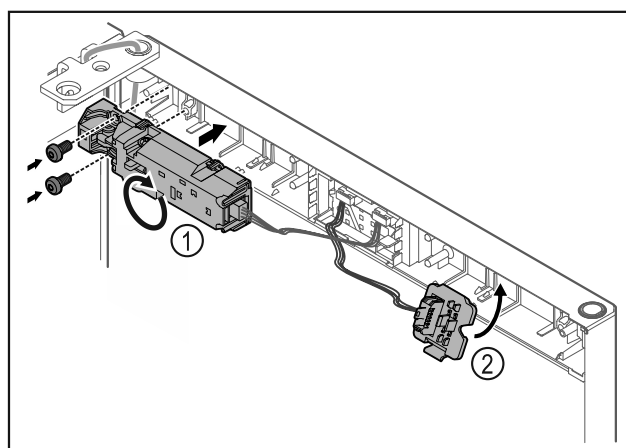

Fig. 44
- Turn the remote lock Fig. 44 (1) by 180° and fasten it on the opposite side.
- Snap in the plug holder Fig. 44 (2) on the opposite side.